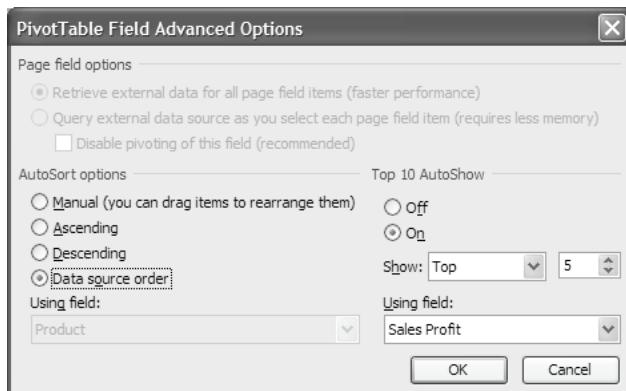

Figure 19.8 Filter the top N members for a given measure.
9. Right-click on any product member and choose *Field Settings*. In the PivotTable Field dialog that follows, click the Advanced button. Enable the *Top Autoshow* feature, as shown in Figure 19.8. If the report includes multiple measures, expand the *Using field* dropdown to select the measure to filter on.